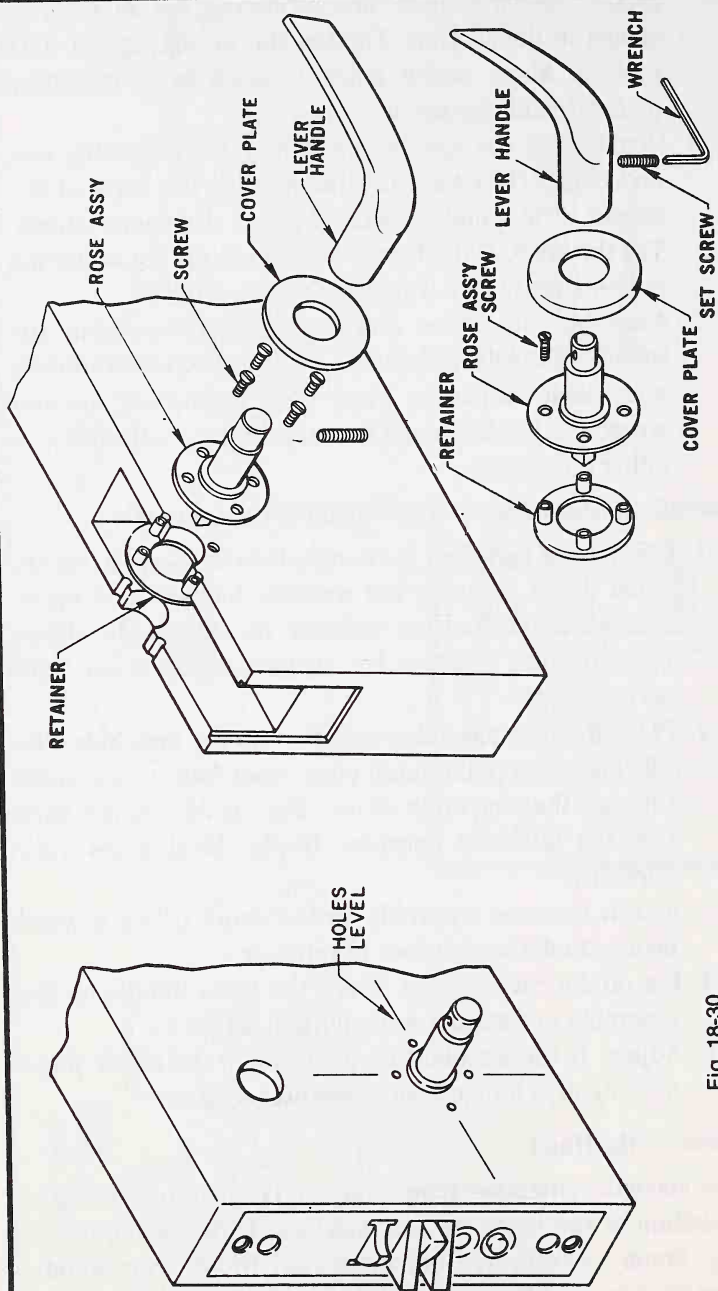

Fig. 18-30.
2. Place the rose assembly spindle into the lock hub. The label shows top and latch edge. Spot four screw holes through the assembly plate (Fig. 18-30). Make sure that the latchbolt operates freely. Drill holes very carefully.